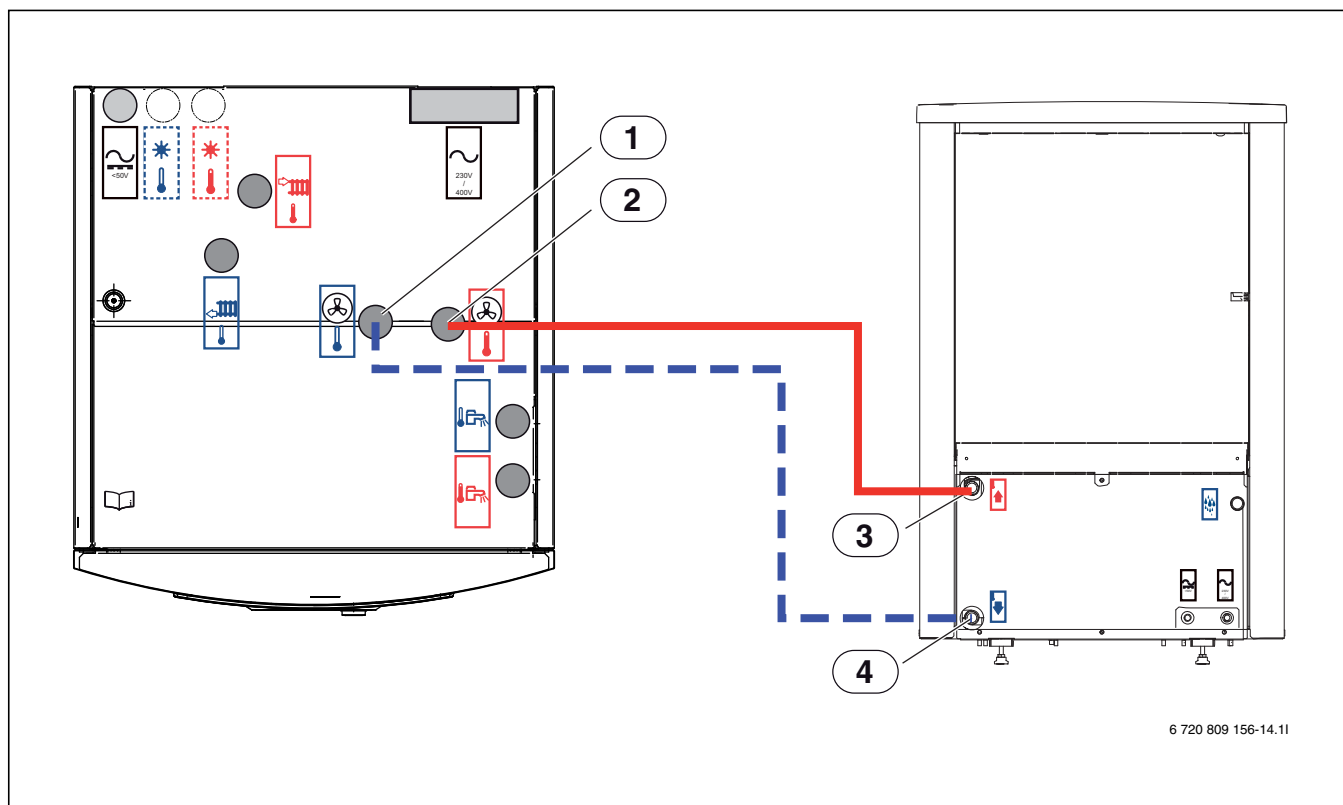

Fig. 13 Heat pump connections heat pump module
If the heat pump module and the heating system are filled before the heat pump is connected, then the heat transfer medium in and out to / from the heat pump must be connected to secure circulation (→ [1] and [2], Fig. 13).
- Connect the return to the heat pump [4] to the heat transfer medium out [1] figure 13.
- Connect the flow from the heat pump [3] to the heat transfer medium in [2] Figure 13.